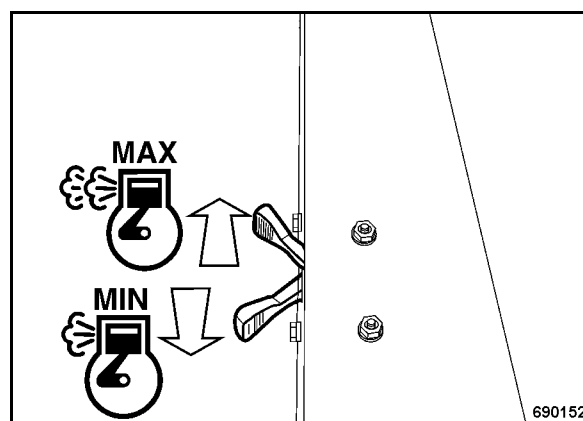

Fig. 31
- Keep shifting the throttle lever (Fig. 31) between "MIN" and "MAX" positions.